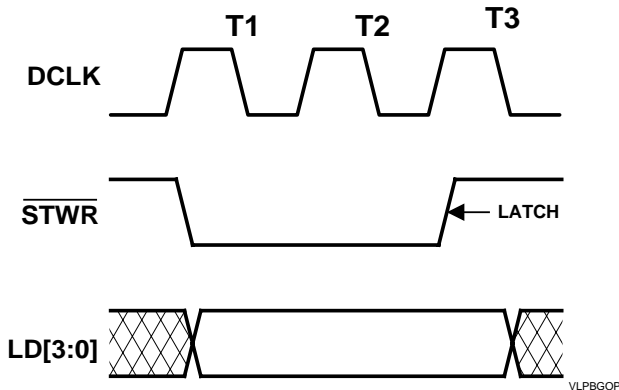

Figure 12-6. General I/O Port Timing (PCI)
5. Write (anything) to CR5C. The data on LD[7:4] are latched 2 DCLKs later into MMFF1C_7-4. (This also drives the contents of MMFF1C_3-0 onto LD[3:0] and generates the STWR pulse on pin 190. The input data is latched on the rising edge of STWR. See Figure 12-6)
LD[3:0] and the \overline{STWR} pulse is generated. The rising edge of \overline{STWR} (2 DCLKs after it is asserted) can be used to latch the data into an external device. The data is held valid for 1/2 DCLK after this edge. See Figure 12-6.